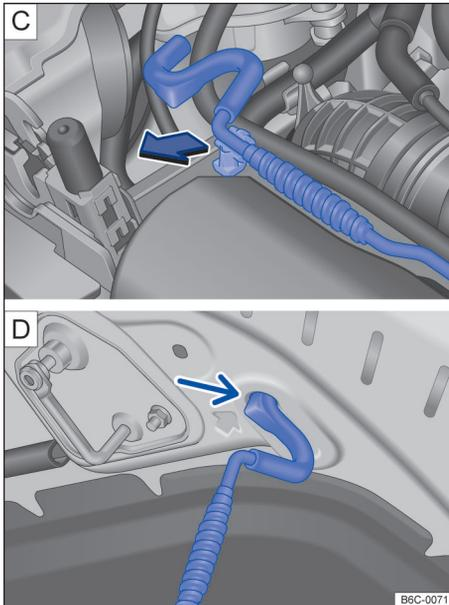

Fig. 168 [C] Bonnet stay. [D] Bonnet secured with the bonnet stay.
- Take the bonnet stay out of the holder as indicated by the arrow → Fig. 168 [C] and insert it into the opening in the bonnet → Fig. 168 [D].
- Take the bonnet stay out of the opening in the bonnet → Fig. 168 [D] and place it back into its resting position holder on the lock carrier → Fig. 168 [C].